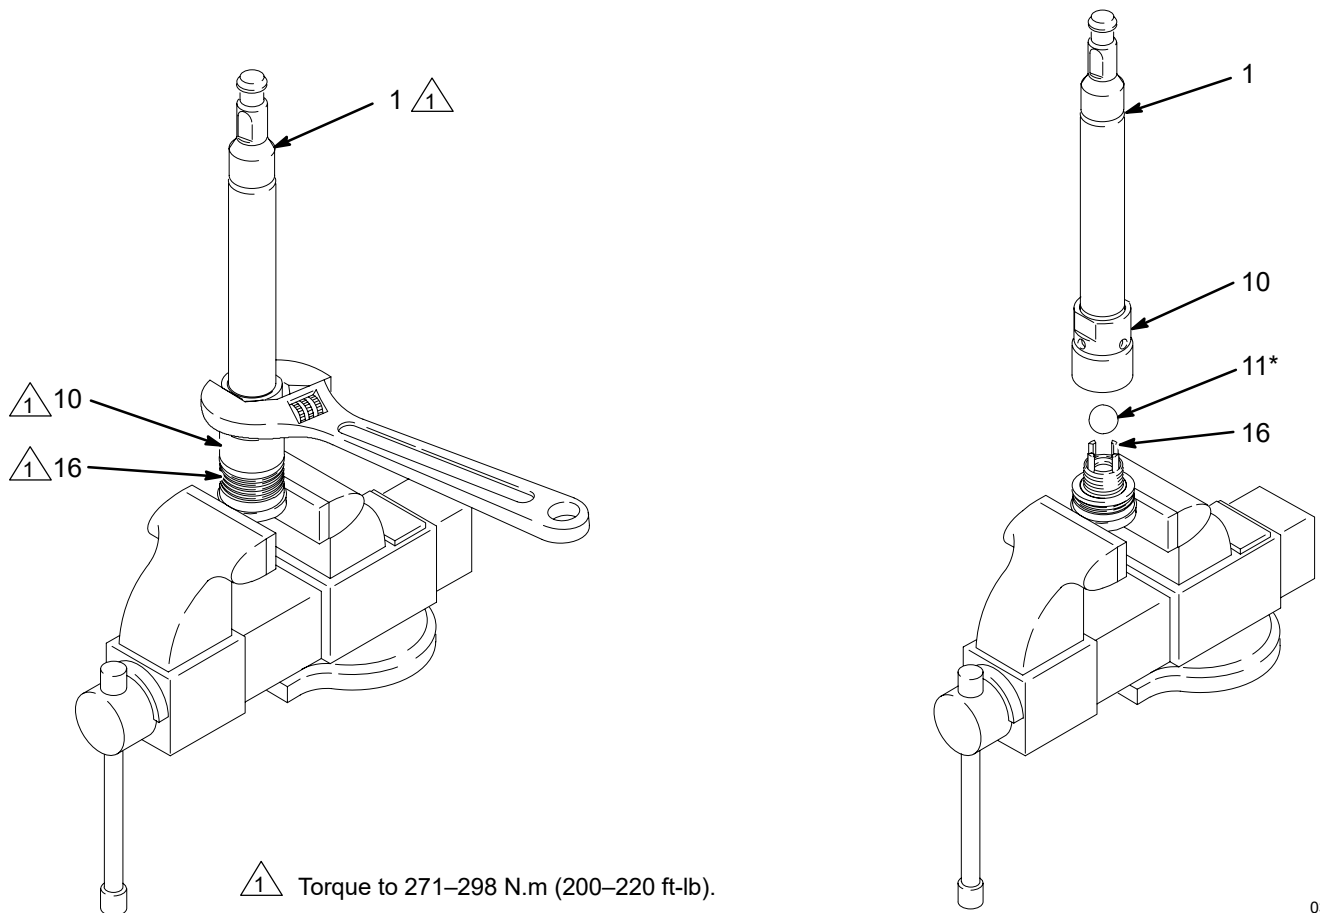

Fig. 8
- a. Unscrew the valve housing (18) from the cylinder, using a 2–5/8 in. wrench for the cylinder flats. Using a rubber mallet, drive the displacement rod (1) and piston assembly out of the outlet housing (7) and cylinder (9) until the piston comes free. Pull the rod and piston from the cylinder, being careful not to scratch the parts.
- b. Using a 2–5/8 in. wrench for the cylinder flats, unscrew the cylinder (9) from the outlet housing (7). Remove the two seals (8) from the cylinder. Shine a light into the cylinder (9) to inspect the inner surface for scoring or wear. Now go to step 4.
- c. Unscrew the cylinder (9) and valve housing (18) from the outlet housing (7). Gently pull the cylinder and valve housing straight out of the outlet housing; the displacement rod (1) and piston assembly will come out with these parts.
- d. Place the valve housing (18) in the vise and unscrew the cylinder (9) from the housing, using a 2–5/8 in. wrench for the cylinder flats. The displacement rod (1) and piston assembly will remain in the cylinder.
- e. Using a rubber mallet, drive the displacement rod (1) and piston assembly out of the cylinder (9) until the piston comes free. Pull the rod and piston from the cylinder, being careful not to scratch the parts.
- f. Remove the two seals (8) from the cylinder. Shine a light into the cylinder (9) to inspect the inner surface for scoring or wear. Now go to step 4.
4. Place the flats of the piston seat housing (16) in a vise, as shown in Fig. 8.
5. Using an adjustable wrench, unscrew the piston ball housing (10) from the piston seat housing. Be careful to catch the piston ball (11) as you separate the piston seat housing and ball housing, so that it does not fall and suffer damage.
6. Examine the displacement rod (1) for scratches or other damage. **Only if the rod needs replacement**, unscrew it from the piston ball housing (10), using an adjustable wrench on the flats of the rod.
3. Place the flats of the piston seat housing (16) in a vise. Place the ball (11*) on the housing. Screw the piston ball housing (10) onto the piston seat housing hand tight, then torque to 271–298 N.m (200–220 ft-lb). See Fig. 8.